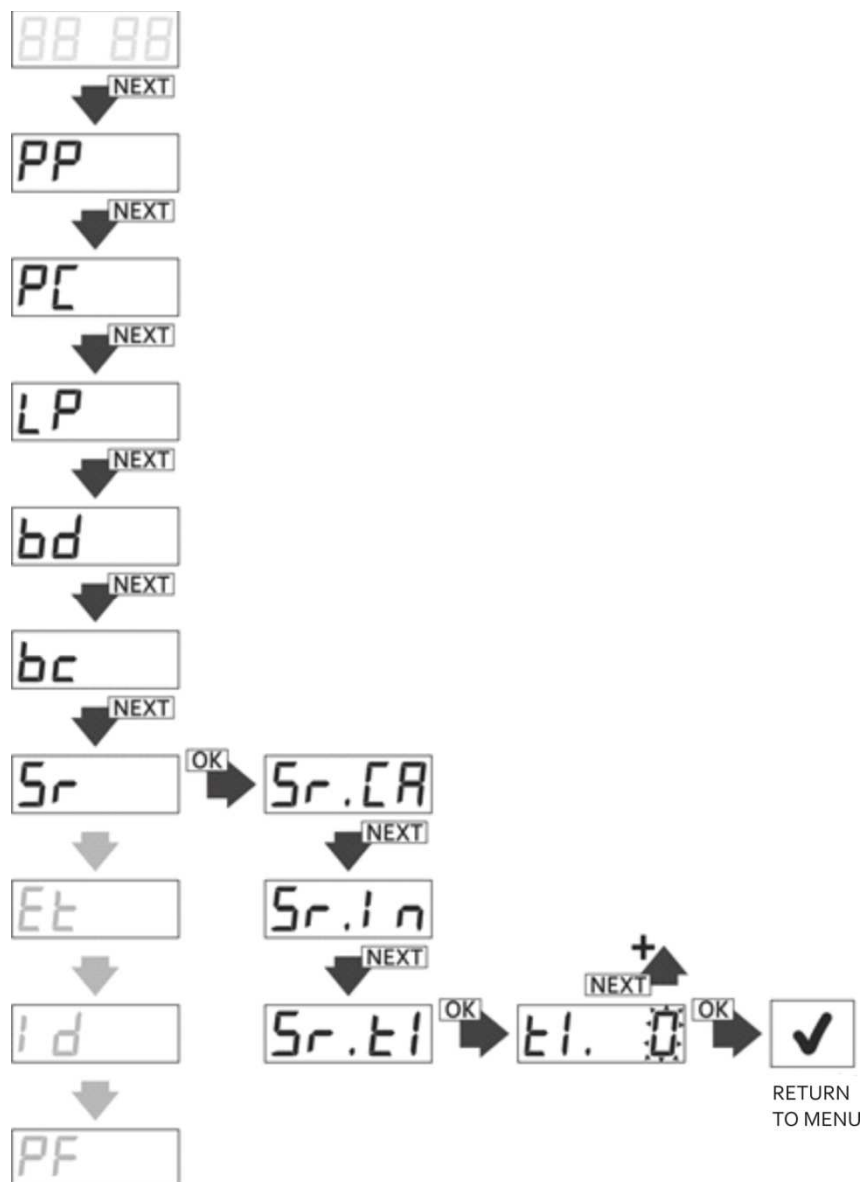

Fig. 25 Programming of breach time of manual control output, Sr.ti function.
- use the NEXT button to go to the Sr.tl function; use the OK / ESC button to enter the function - the display will show 'tl.0' (fig. 25);